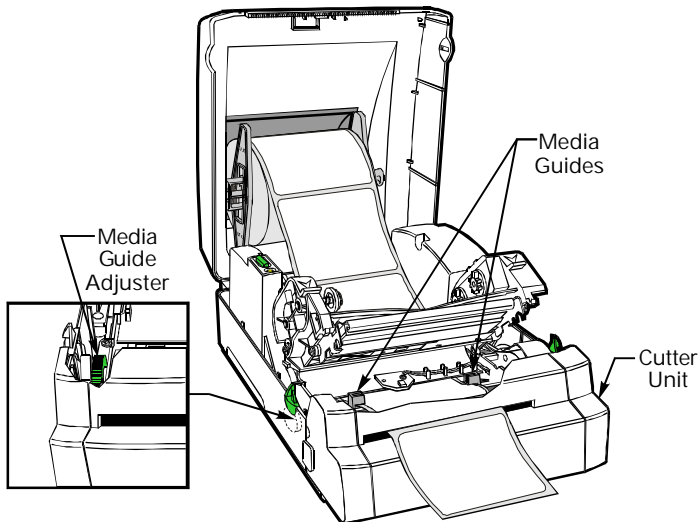

Figure 21
8. Refer to Figure 21. Thread the media through the media guides.
**NOTE:** *If the media guides must be changed to accommodate the width of the media, turn the green media guide adjuster (refer to Figure 21). The media guides should just touch, but not restrict, the edges of the roll*
9. Refer to Figure 21. Thread the media through the cutter unit.